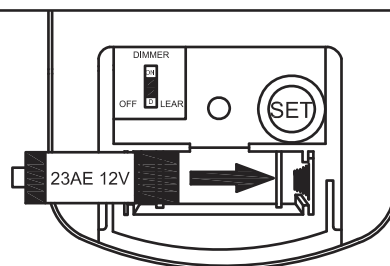

Figure 3
- ☐ **3.** To make fan operational, install 23A/12V battery (included) in hand-held remote transmitter, with fan power off. Then follow the remote code setting process. (If not used for long periods of time, remove battery to prevent damage to transmitter). Store the remote away from excessive heat or humidity. (Figure 3)